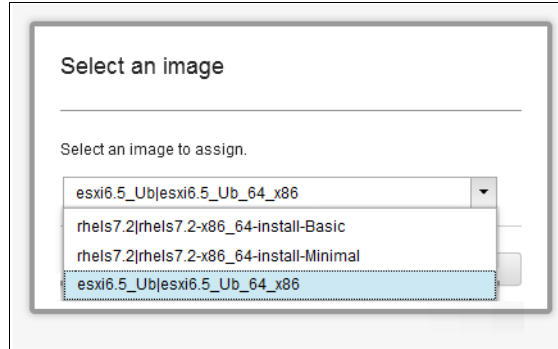

Figure 6-23 Select OS image
5. Choose the required OS image from list of available images, as shown in Figure 6-23 on page 197.